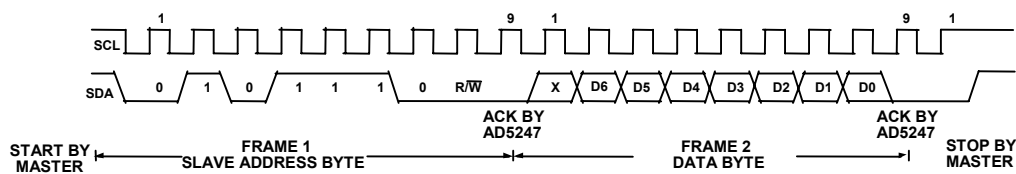
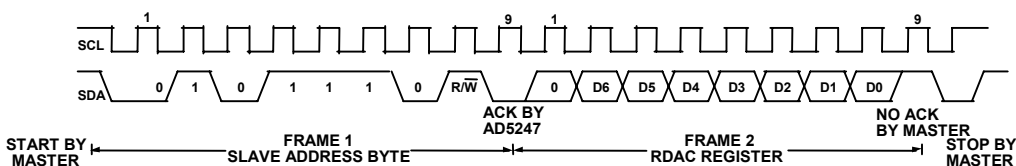

Figure 4. Writing to the RDAC Register
Figure 5. Reading Data from a Previously Selected RDAC Register in Write Mode
1. The master initiates data transfer by establishing a START condition, which is when a high-to-low transition on the SDA line occurs while SCL is high (see Figure 4). The following byte is the slave address byte, which consists of the 7-bit slave address followed by an R/W bit (this bit determines whether data will be read from or written to the slave device).
3. In the read mode, after acknowledgement of the slave address byte, data is received over the serial bus in sequences of nine clock pulses (a slight difference with the write mode, where there are eight data bits followed by an acknowledge bit). Similarly, the transitions on the SDA line must occur during the low period of SCL and remain stable during the high period of SCL (see Figure 5).
4. When all data bits have been read or written, a STOP condition is established by the master. A STOP condition is defined as a low-to-high transition on the SDA line while SCL is high. In write mode, the master will pull the SDA line high during the tenth clock pulse to establish a STOP condition (see Figure 4). In read mode, the master will issue a No Acknowledge for the ninth clock pulse (i.e., the SDA line remains high). The master will then bring the SDA line low before the tenth clock pulse which goes high to establish a STOP condition (see Figure 5).